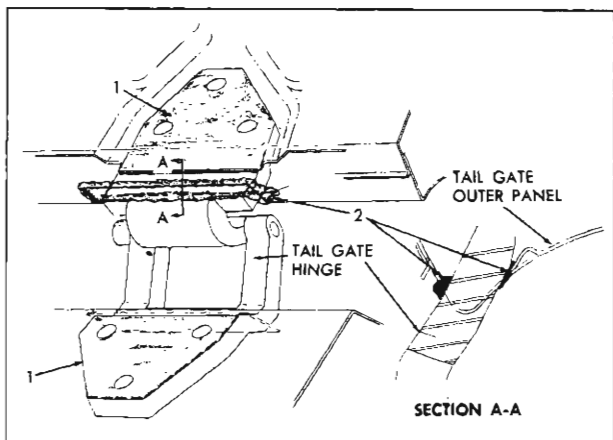

Fig. 84—Tail Gate Hinge Assembly
9. To install tail gate assembly reverse removal procedure. Prior to installation apply a coat of heavy bodied sealer to surface of hinge straps that contact tail gate inner panel (fig. 84).
5. To install tail gate hinge, reverse removal procedure. Prior to installation apply a coat of heavy bodied sealer to surfaces of hinge strap which contact tail gate inner panel and body rear cross bar (fig. 84). Where necessary adjust tail gate for